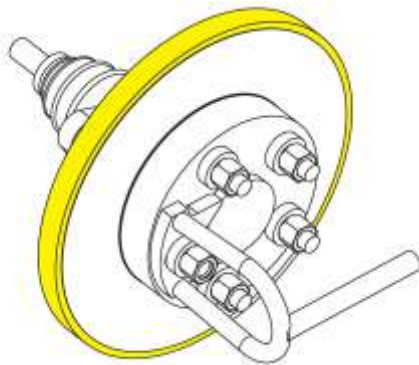

Fig. 65
6. Remove the rubber silencer from the brake disc, Fig. 65.